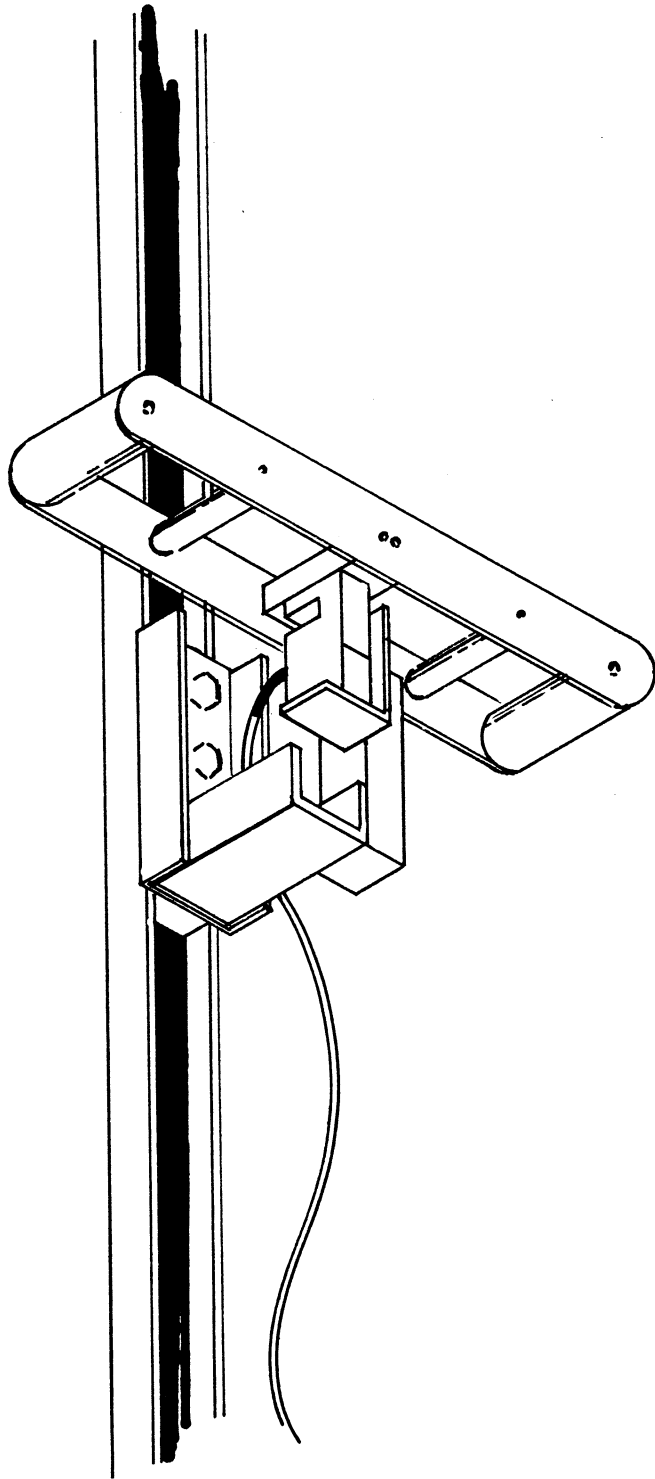

Figure 1: Force monitor system: handles, supporting hardware and load cell
1. Handles and Supporting Hardware - The handles and supporting hardware for the force monitor system are illustrated in Figure 1. Typically, the handles are provided with the system while the supporting hardware is built by the user. This is necessary because of the different strength testing requirements of different installations, and the need to adapt and modify the supporting hardware in order that it can be securely mounted in different facilities. Additional details concerning the supporting hardware are given in the Specifications section.
2. Load Cell - The load cell, also pictured in Figure 1, is an electronic strain gauge which measures the forces exerted on the handles. This component is provided with the system.
The handles and supporting hardware for the force monitor system were illustrated earlier in Figure 1. Typically, the handles are provided with the unit and the supporting